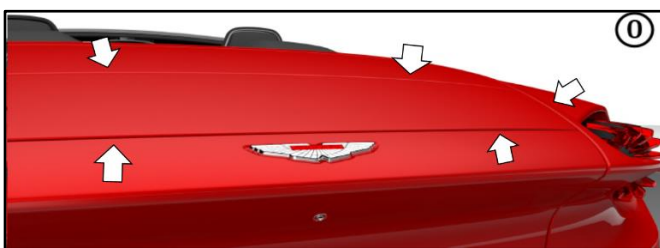

Figure 17
20. Make sure that the gap between the spoiler blade and boot lid is the same all around. (Refer to Figure 17.)